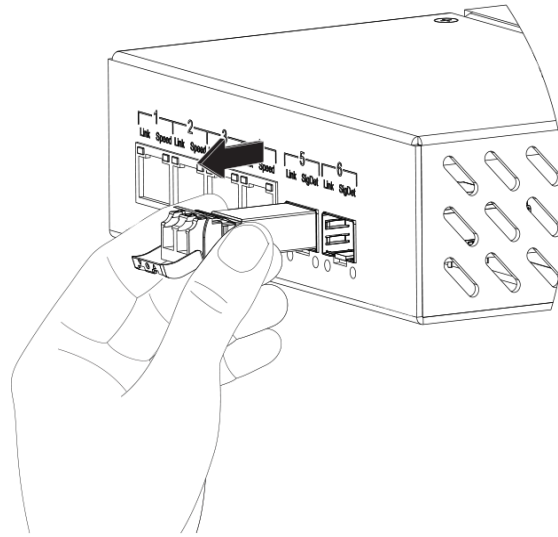

Figure 16. Removing a module
4. Grasp the SFP module between your thumb and index finger and carefully remove it from the port (see figure 16 on page 27)